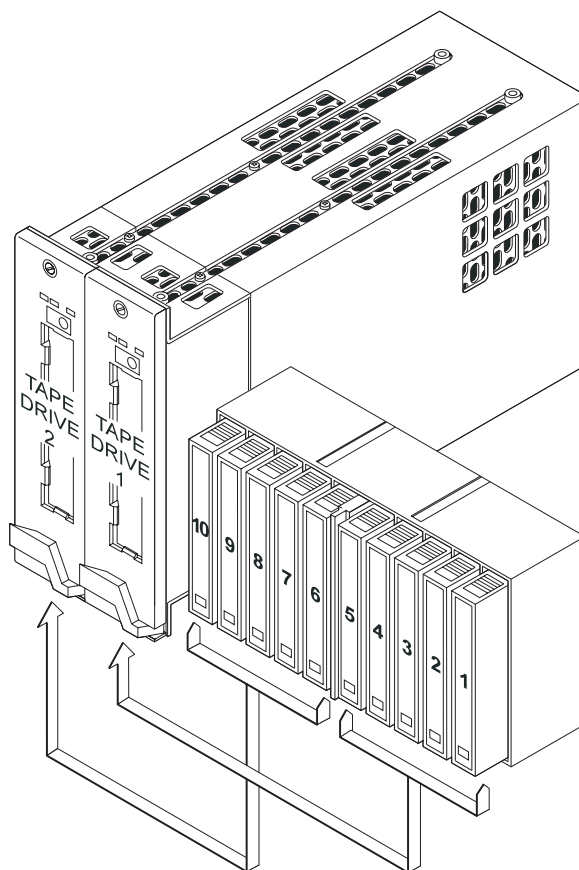
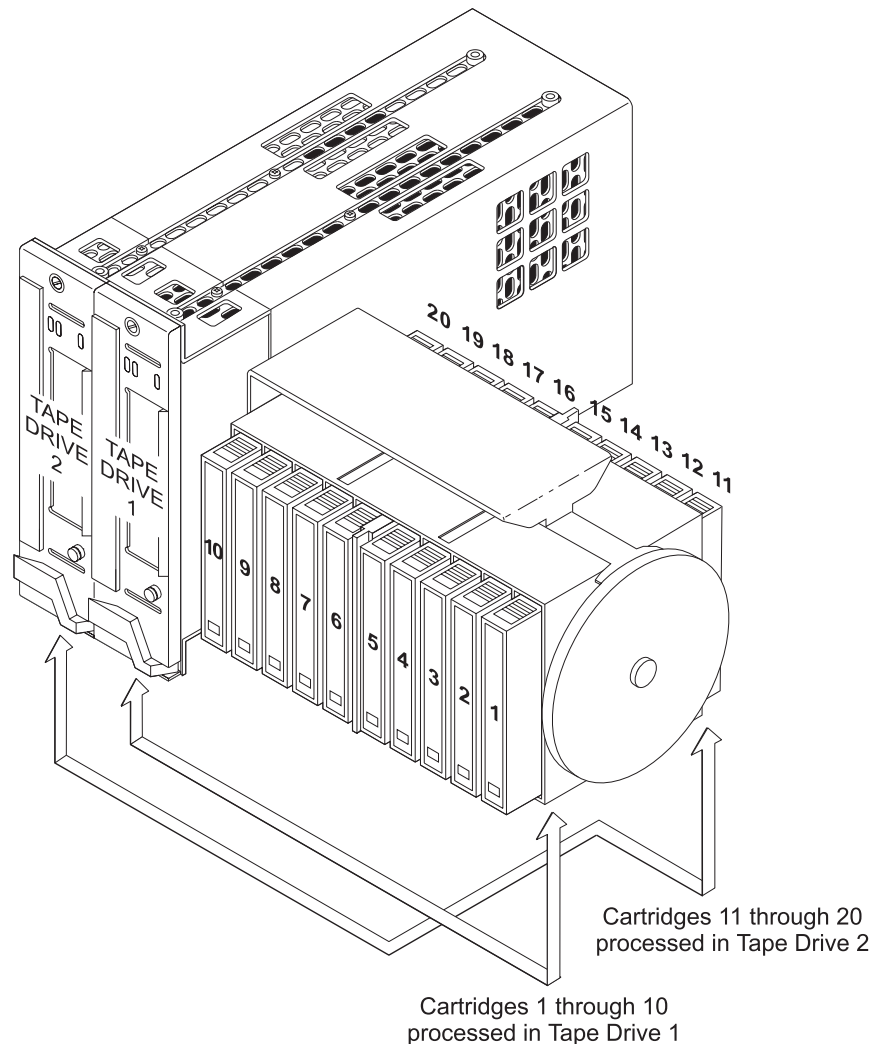

Figure 1-3 Data cartridge slot assignments for Dual Sequential mode for the EXB-210
Figure 1-4 Data cartridge slot assignments for Dual Sequential mode for the EXB-220
- **Dual Sequential mode**, in which CHM motion is controlled by the library's internal firmware. In dual sequential mode, the CHM sequentially processes cartridges in both tape drives simultaneously, as follows: For the EXB-210, the data cartridges in slots 1 through 5 are processed in tape drive 1, and the data cartridges in slots 6 through 10 are processed in tape drive 2 (see Figure 1-3). For the EXB-220, the data cartridges in slots 1 through 10 (magazine 1) are processed in tape drive 1, and the data cartridges in slots 11 through 20 (magazine 2) are processed in tape drive 2 (see Figure 1-4).